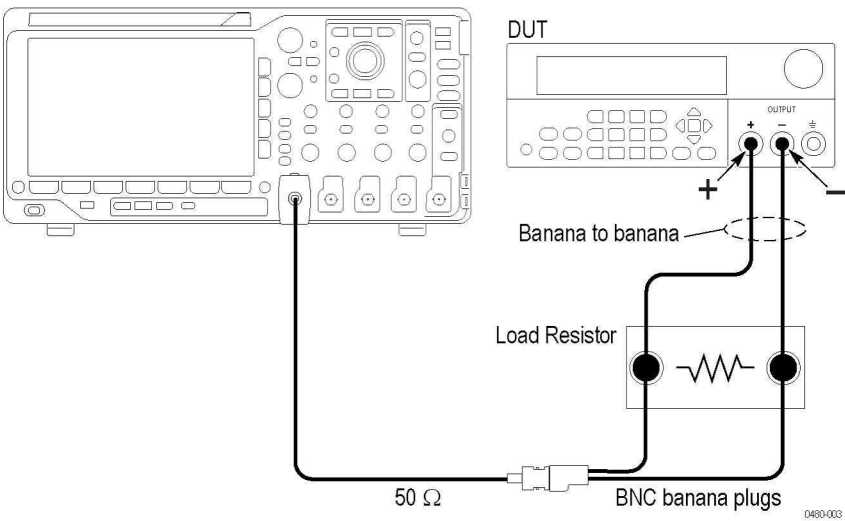

Figure 6: 20 MHz voltage noise test setup
4. Set up the equipment as shown. (See Figure 6.)